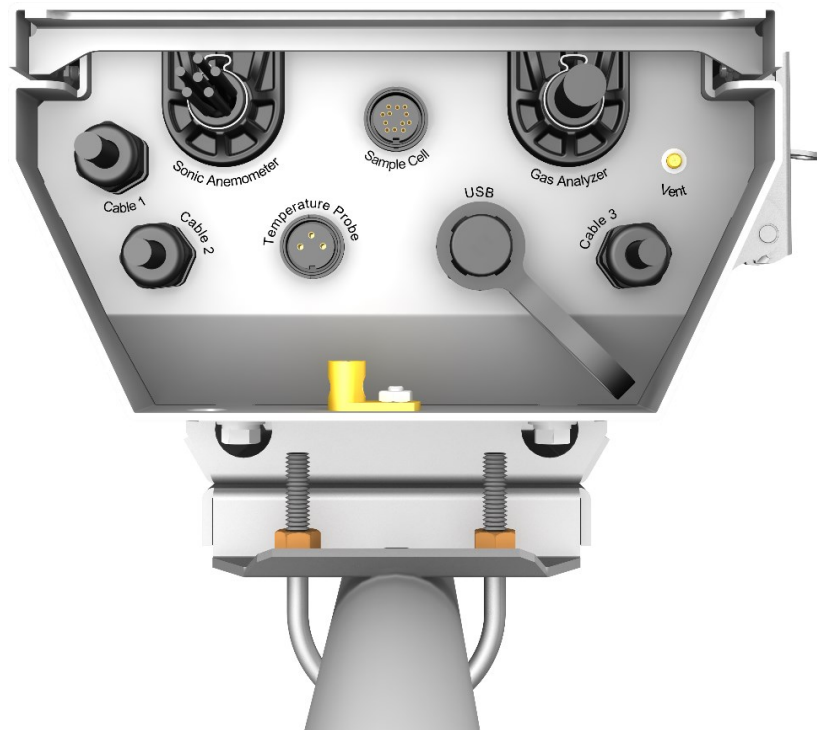

Figure 6-6. Base of EC100 enclosure
Figure 6-5 (p. 17), Figure 6-6 (p. 18), and Figure 6-7 (p. 18) show the EC100 electronics panel, the bottom of the EC100 enclosure, and sensor connections to the EC100, respectively. Refer to these figures during wiring and connecting.
4. Connect the IRGASON temperature probe. Unscrew the temperature connector cover, which is found on the base of the EC100 enclosure (see Figure 6-6 [p. 18]). Insert the three-prong probe connector into the socket connector on the enclosure and screw it firmly in place. The IRGASON temperature probe cable is approximately 3 m (9.8 ft) in length.